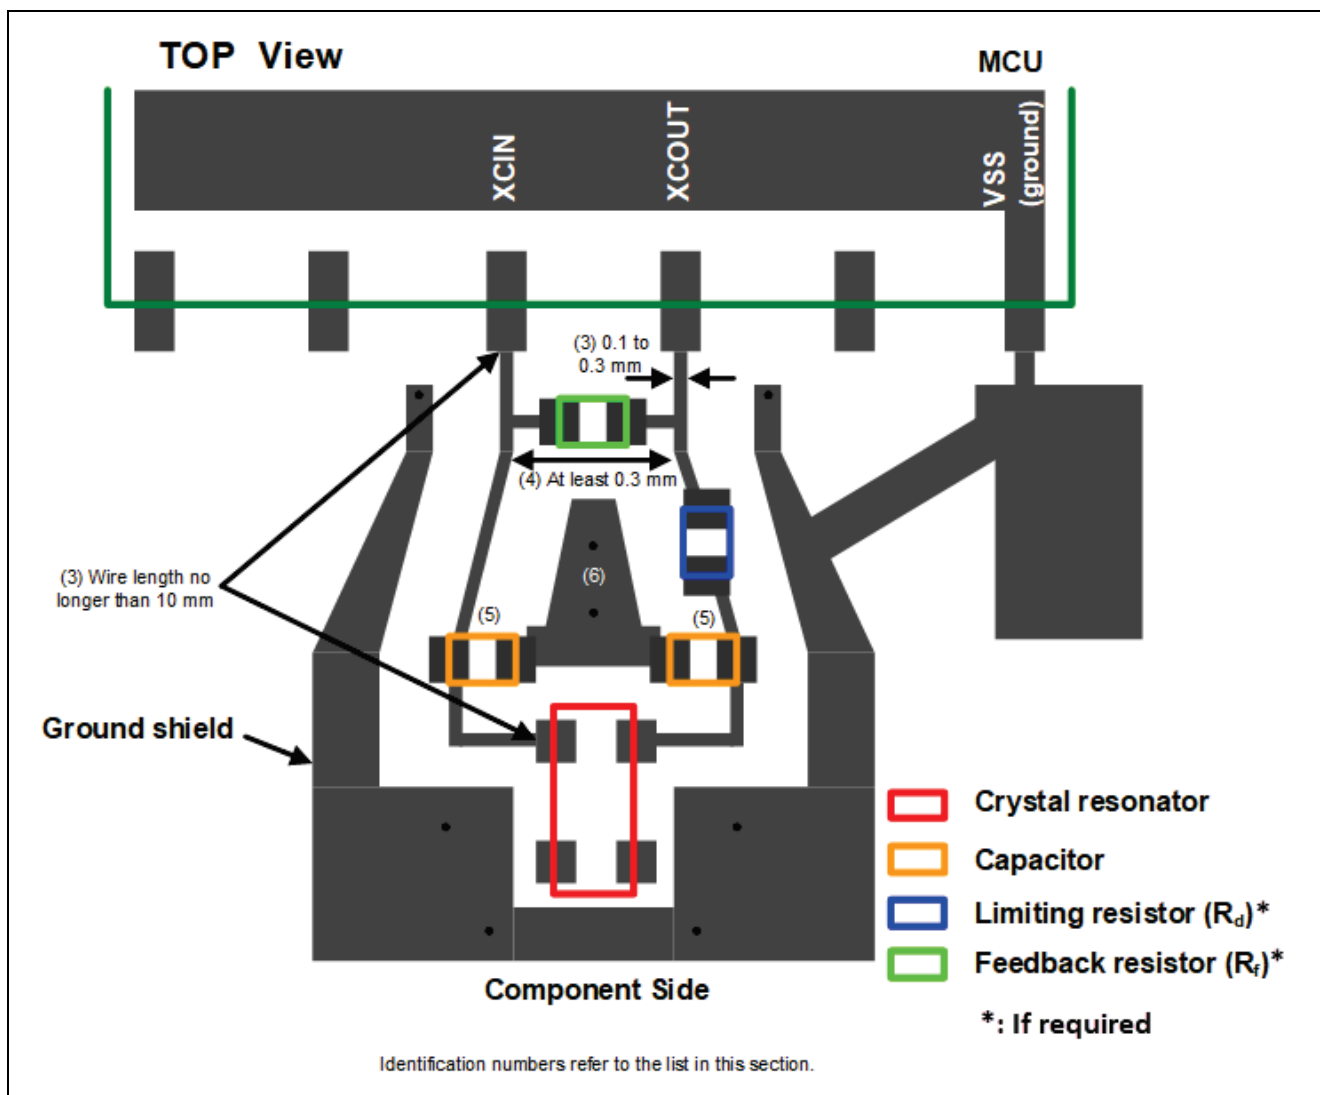
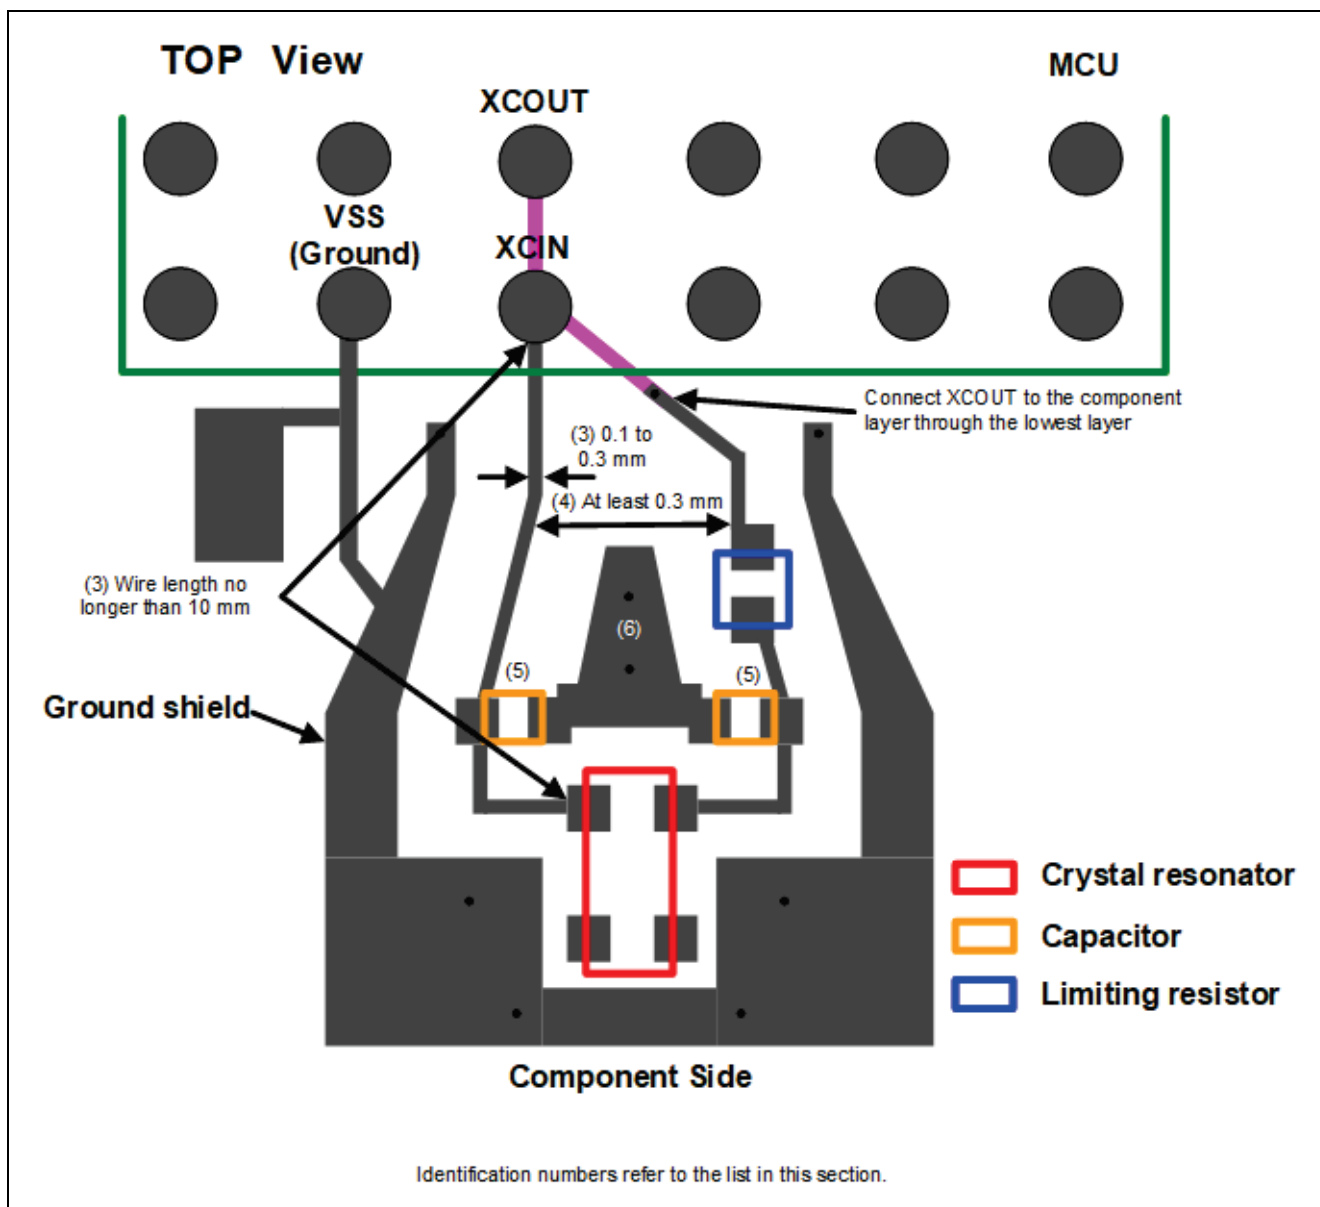
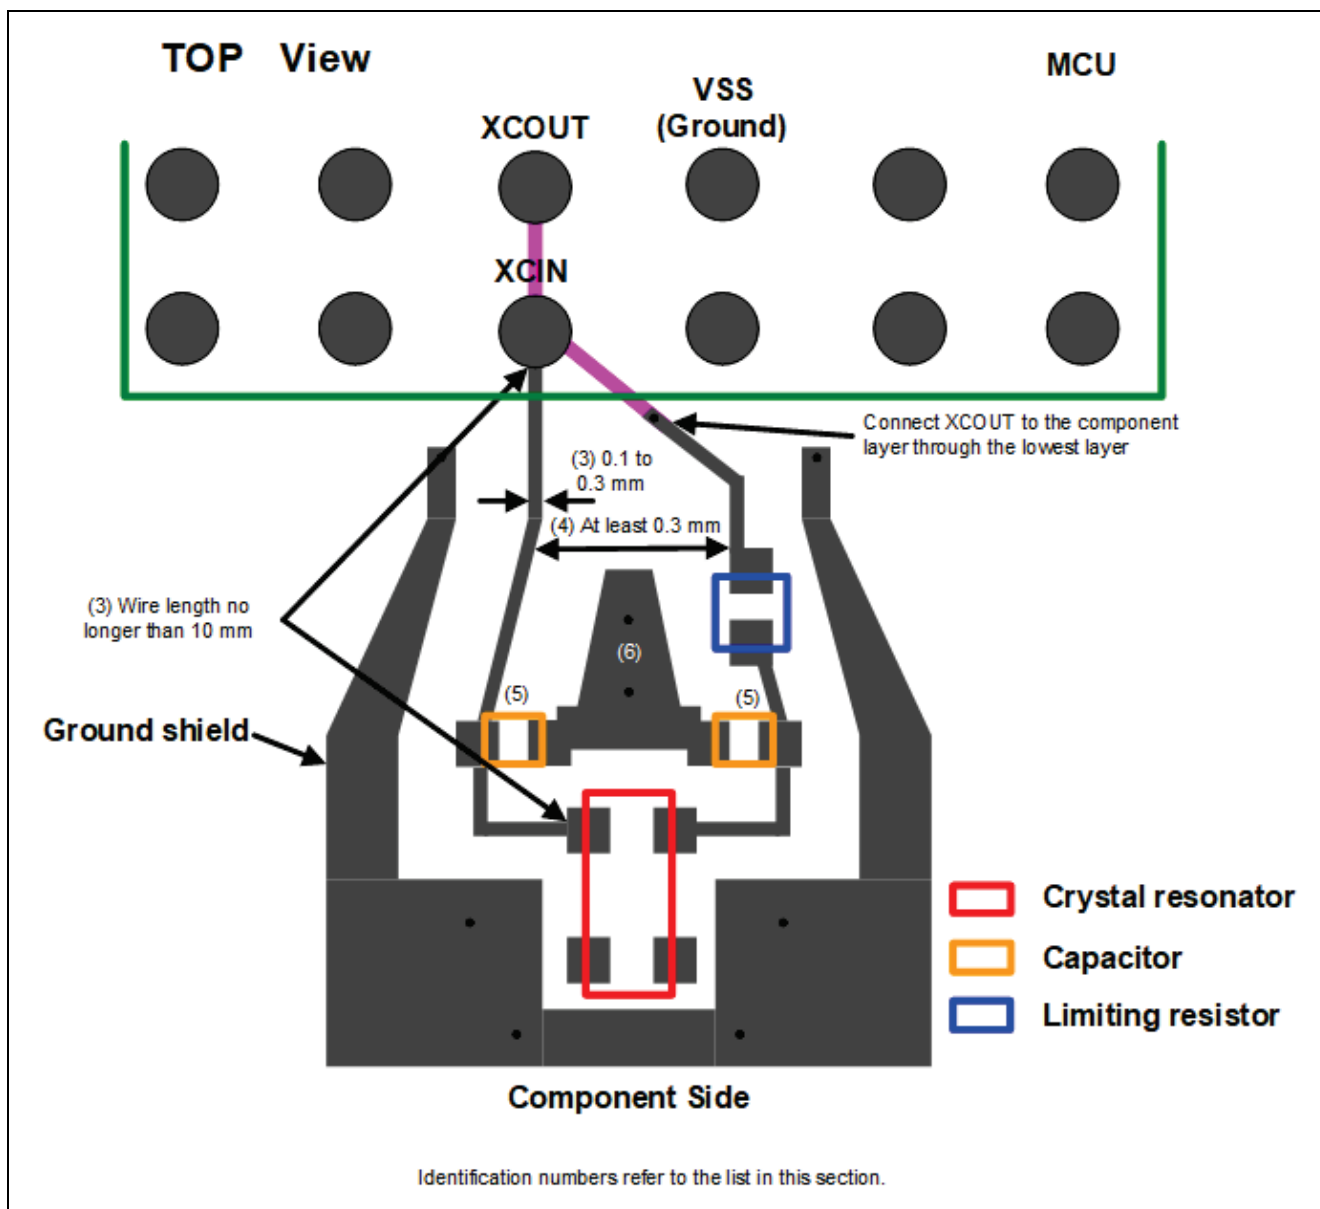
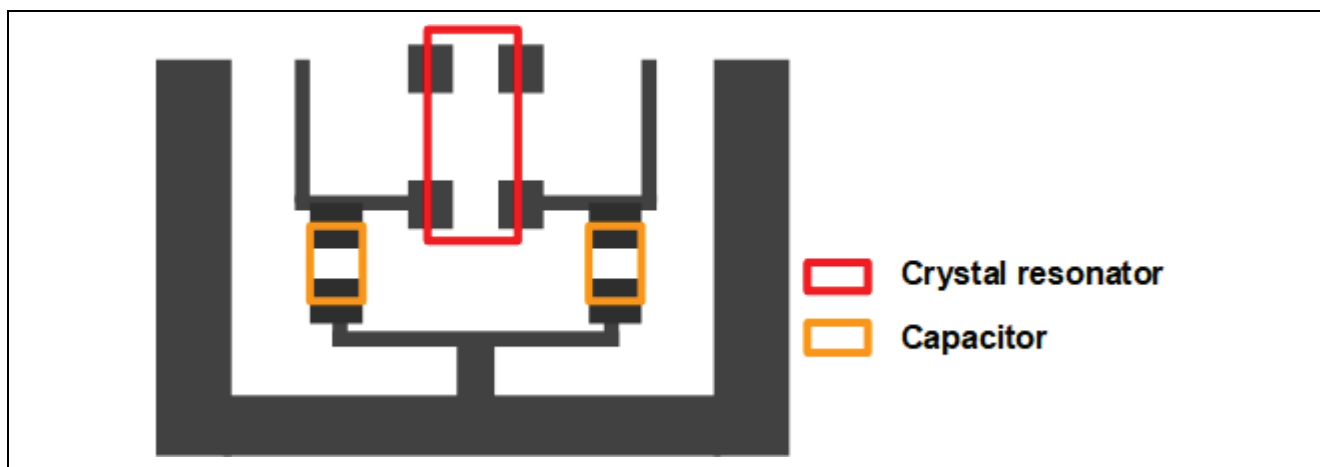

Figure 5. Example of Preferred Placement and Routing for XCIN and XCOUT, LQFP Packages
Figure 6. Example of Preferred Placement and Routing for XCIN and XCOU, LGA Packages
Figure 7. Example of Preferred Placement and Routing for XCIN and XCOU, BGA Packages
Figure 8. Example of Alternate Placement and Routing for XCIN and XCOU
The following list describes points on routing for XCIN and XCOOUT. Figure 5, Figure 6, and Figure 7 show examples of preferred trace routing for XCIN and XCOOUT. Figure 8 shows an alternate example of trace routing for XCIN and XCOOUT. Identification numbers in the Figures refer to this list.
5. Connect external capacitors as close together as possible. Connect the traces for the capacitors to the ground trace (hereinafter referred to as the “ground shield”) on the component side. For details on the ground shield, refer to section 2.2.2. When the capacitors cannot be placed using the preferred placement, use the placement shown in Figure 8.